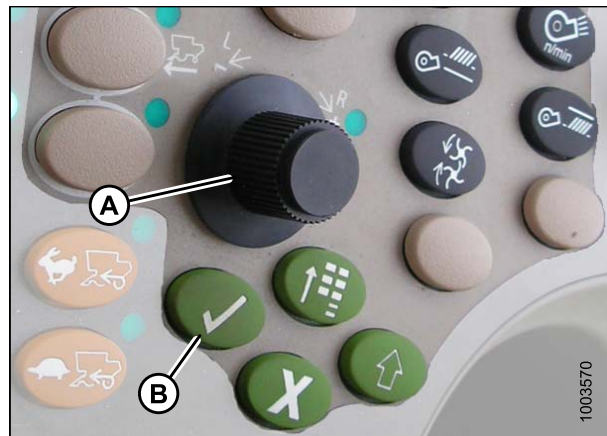

Figure 6.135: John Deere Combine Control Console
7. Select HEADER in box (A) by scrolling down to the box using the scroll knob, and then pressing the check mark button (knob and button are shown in Figure 6.135: *John Deere Combine Control Console*, page 208).
8. Scroll down to the lower right icon that resembles an arrow in a diamond (B) and press the check mark button to select it.